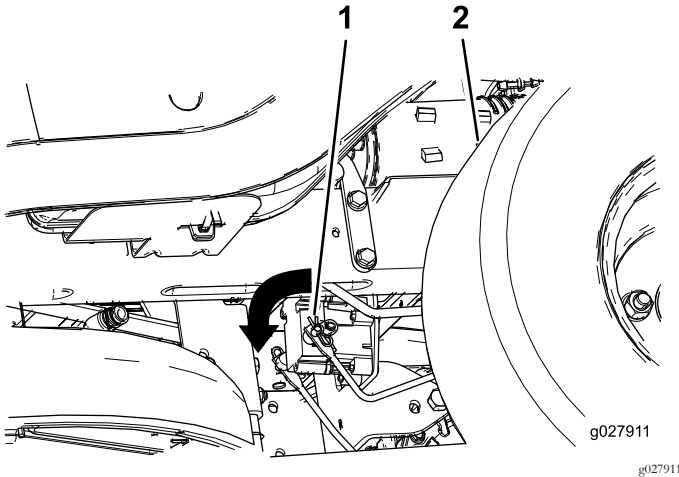

Figure 49
2. Locate the shaft on the electric brake where the brake link arms are connected (Figure 49).